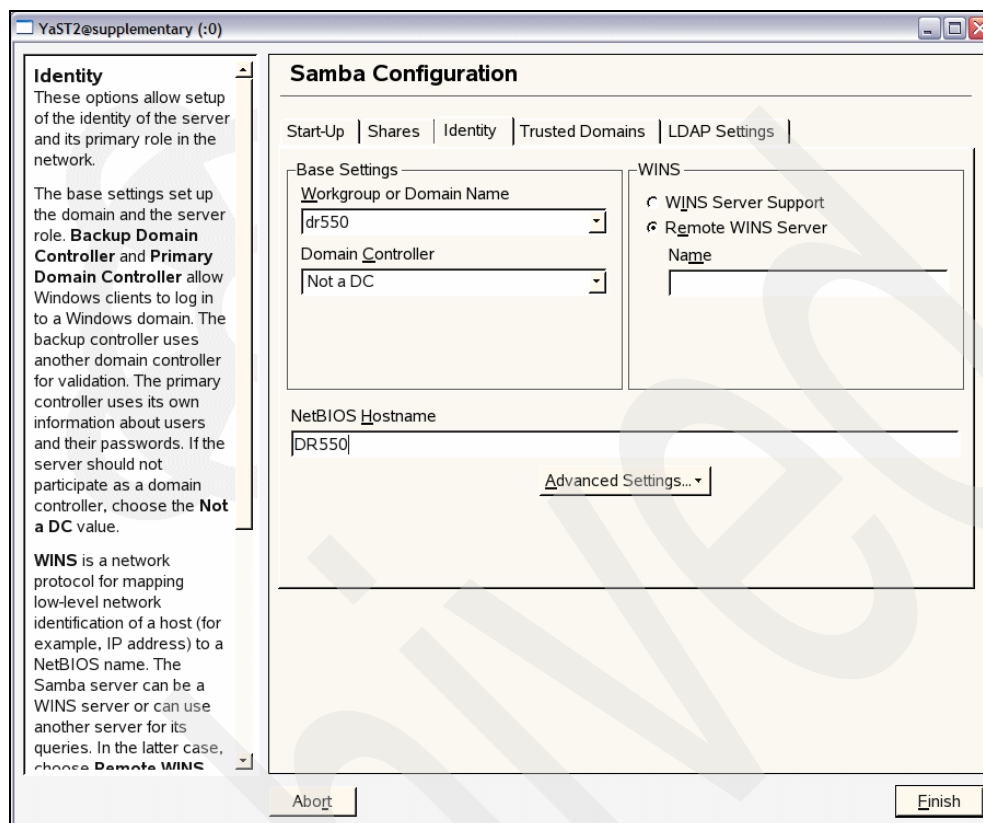

Figure 6-16 Samba Configuration - Server identity
5. Click the **Identity** tab to set up the server identity and its role in the network, as shown in Figure 6-16.